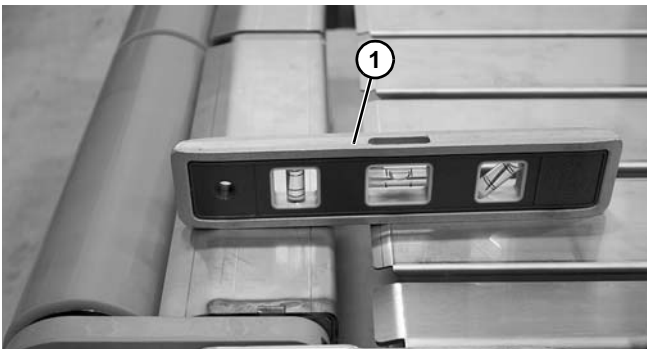

Figure 86
- Check level of idler tail by placing a level (Figure 86, item 1) on top of bed rail and support bracket.